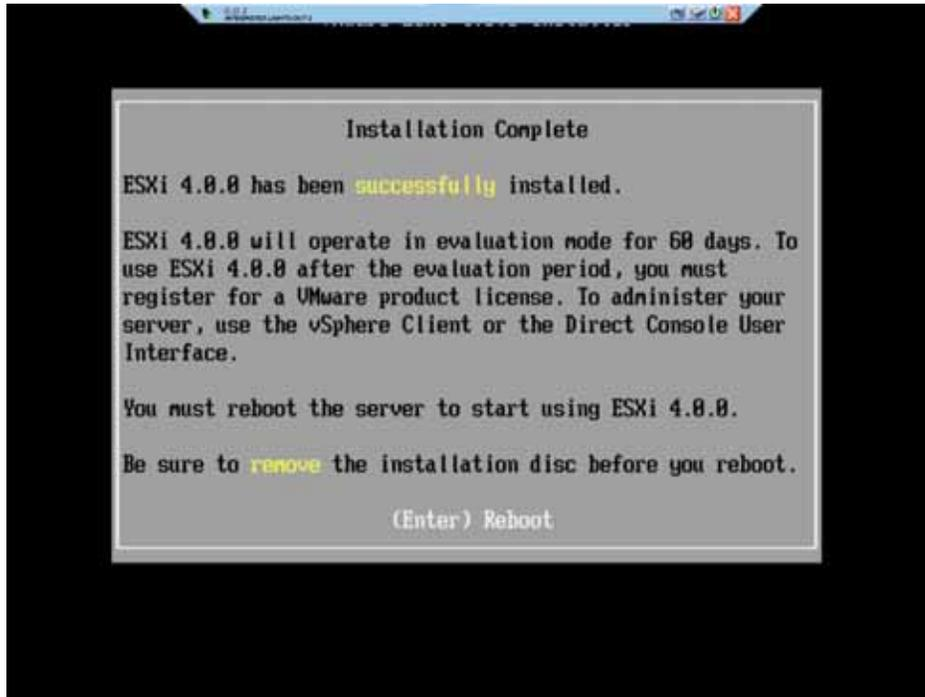

Figure 30 Installation Complete
- Step 7 When the correct boot disk is confirmed, the installation runs to completion. The Installation Complete dialog is displayed. Figure 30 shows this dialog.